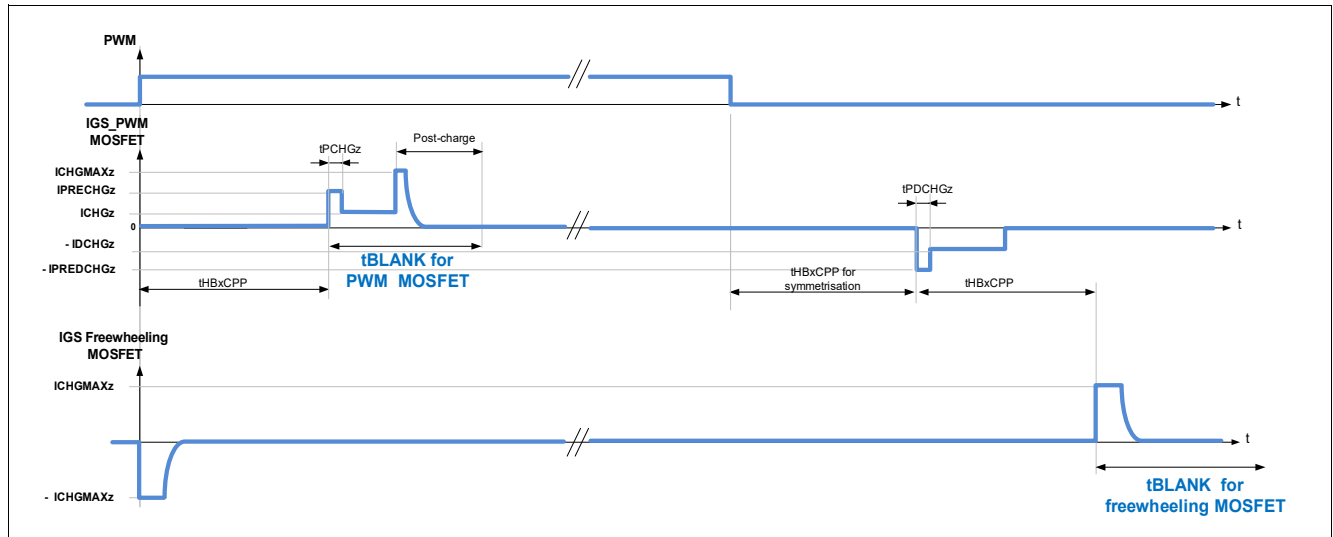

Figure 83 Blank time for half-bridges in PWM operation with $AFW = 1$
- the blank time of the PWM MOSFET starts at the expiration of the cross-current protection time of the PWM MOSFET. Refer to Figure 83.
- the blank time of the free-wheeling MOSFET starts after expiration of the cross-current protection time at turn-off of the PWM MOSFET. Refer to Figure 83.